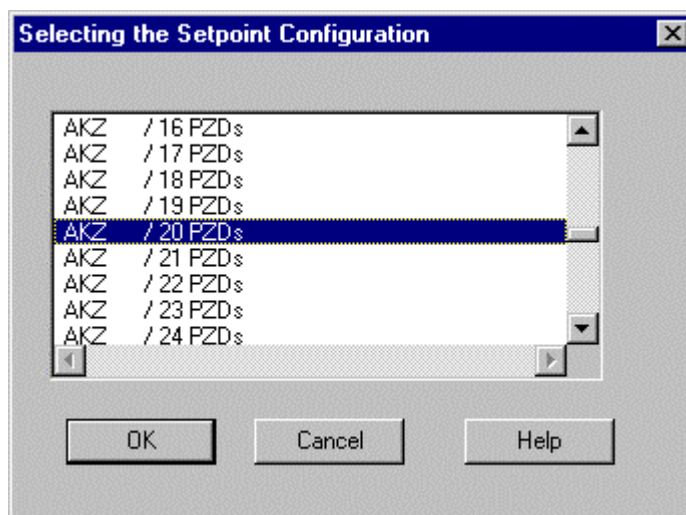

Figure 2
- Upon request make sure you select "AKZ > / 20 PZDs" (Figure 2).